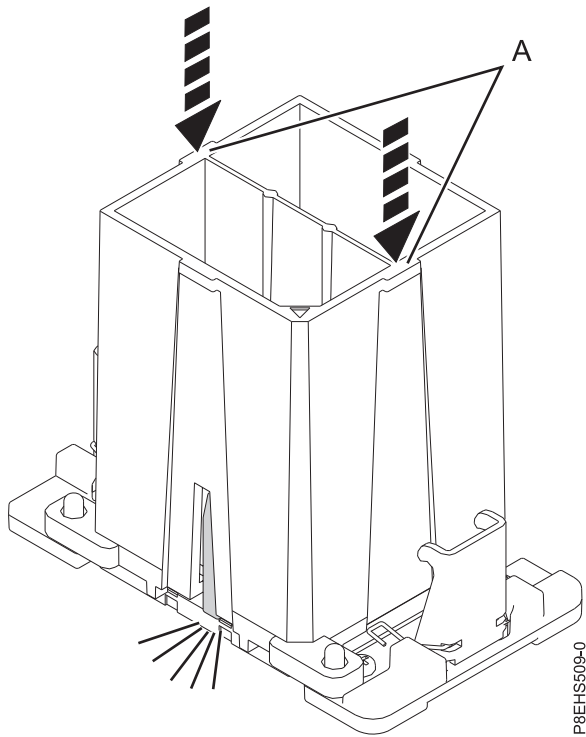

Figure 72. Locking the system processor module into the tool
- c. With the removal tool (A) sitting on top of the system processor module, push down on the tool to lock the system processor module into the tool, as shown in Figure 72 on page 72. Make sure that both of the tool jaws are locked on the system processor module. Do not press the blue release tabs until directed to do so later.